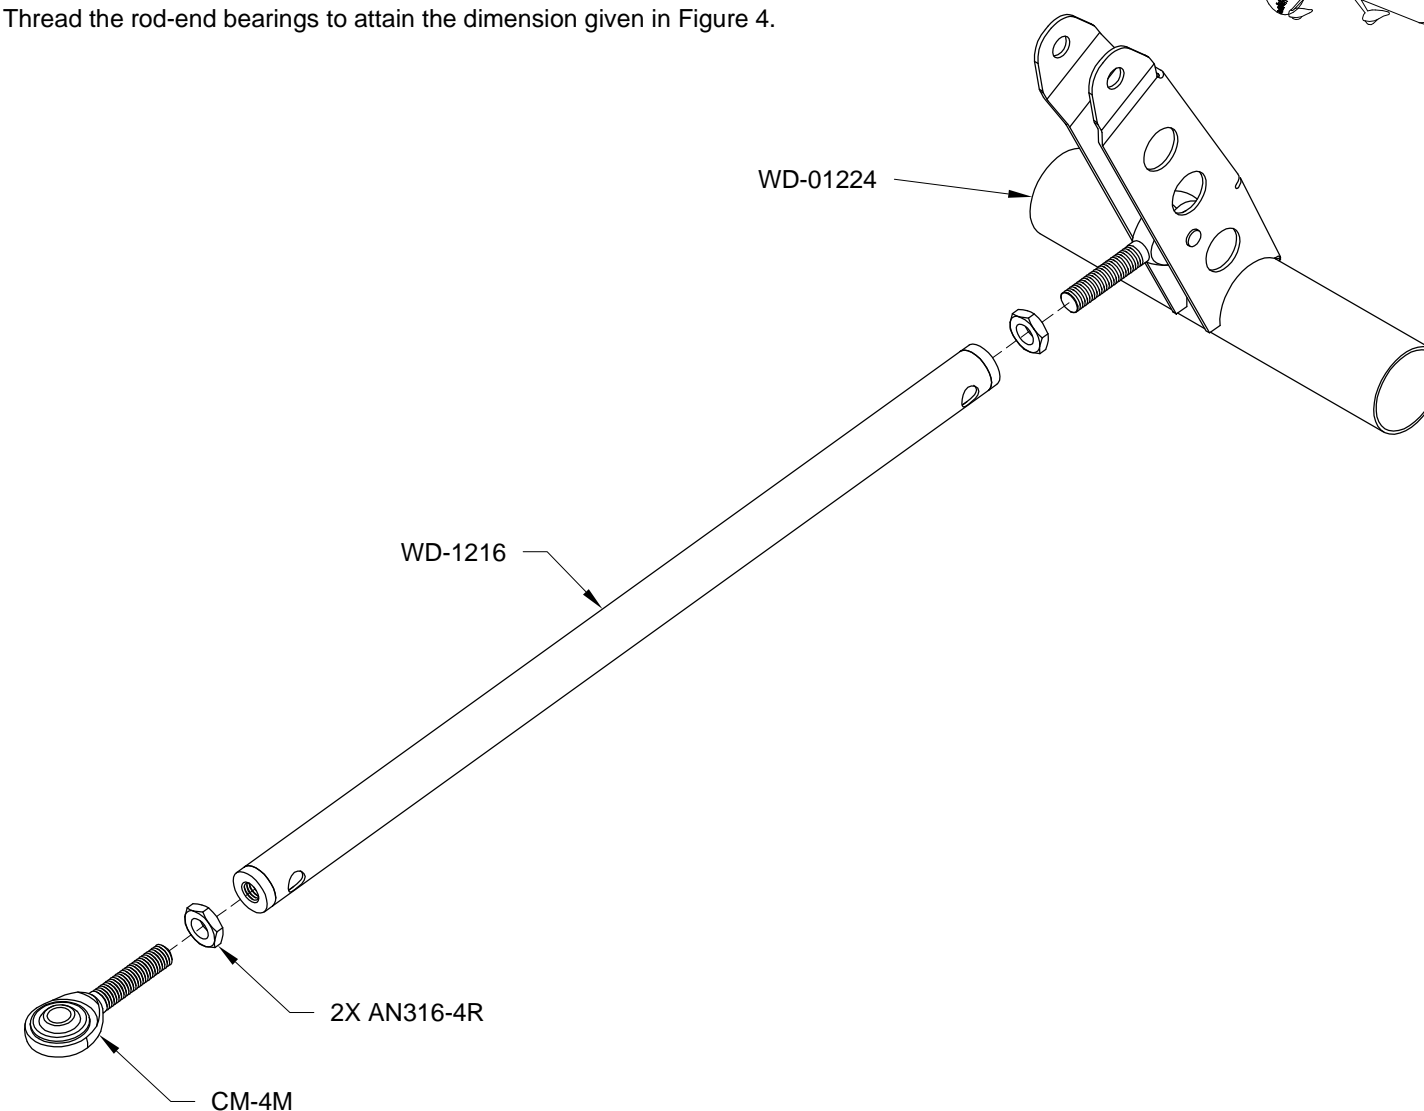

FIGURE 3: FLAP CRANK ASSEMBLY
Step 3: Make the Flap Crank Assembly as shown in Figure 3.